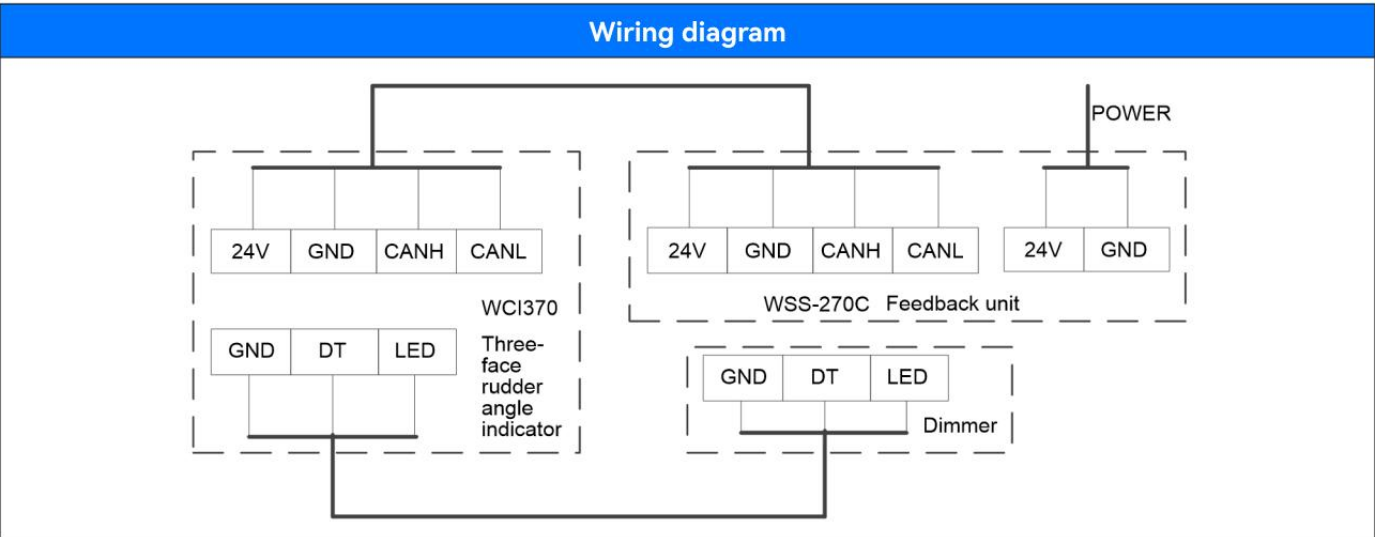

Figure 1.4
1. If the rudder Angle feedback device CAN directly output CAN signals, such as WSS-270C, WSS-R106C and WSS-R68 of Scallop Technology, it is directly connected through the CAN bus, and the wiring method is shown in Figure 1.4.